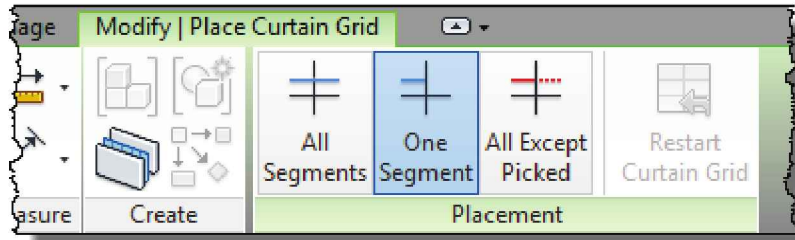

FIGURE 8-5.2 Ribbon options for Curtain Grid tool
5. Select the *Curtain Grid* tool and then click on the **One Segment** option on the *Ribbon* (Figure 8-5.2).